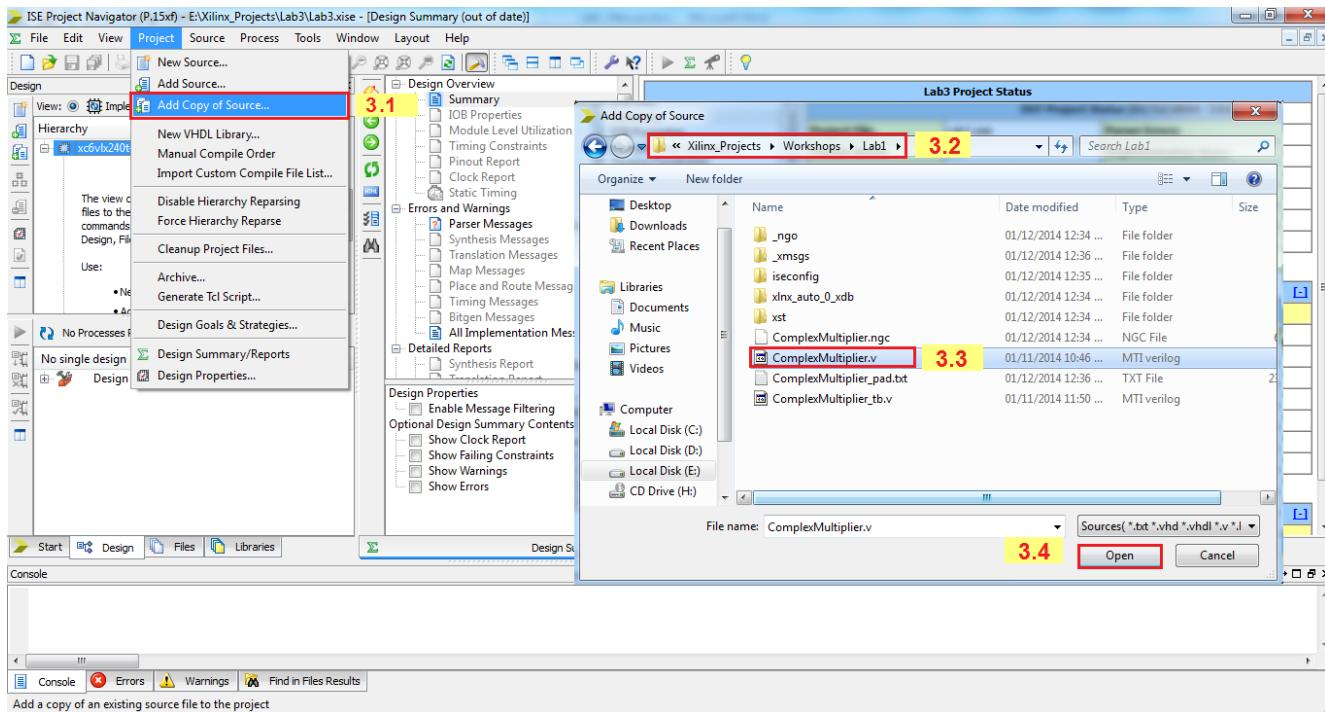

Figure 11.
3. Adding Existing Source Files (Figure 11)